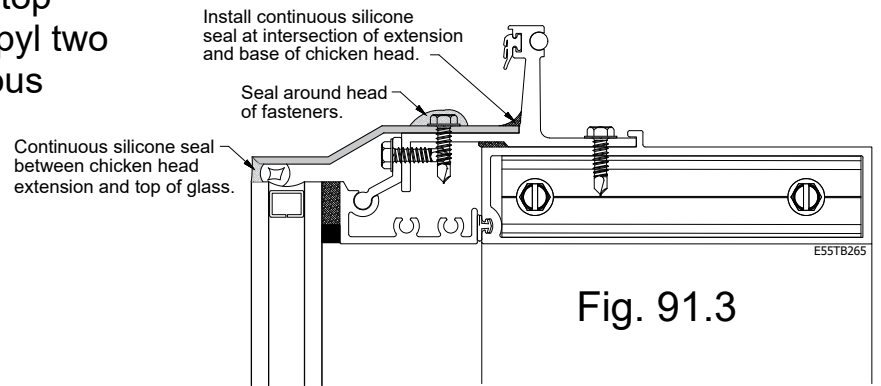

Fig. 91.3
Step 3: Wipe clean metal at extender / base of chicken head using Isopropyl two towel wipe and install continuous of silicone to seal intersection. See Fig. 91.3.
Step 4: Clean metal at front bottom of chicken head extender and top of outer glass light with Isopropyl two towel wipe and install continuous silicone bead. Fig. 91.3